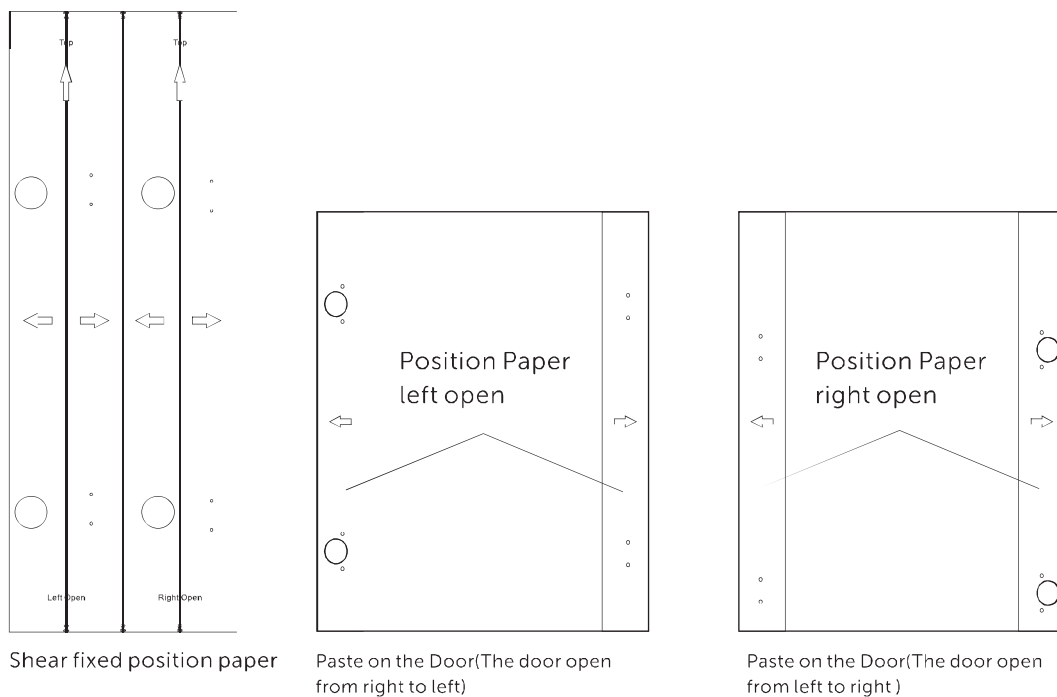

Fig11
- 2.Fixed position paper on the door.(Fig 11)